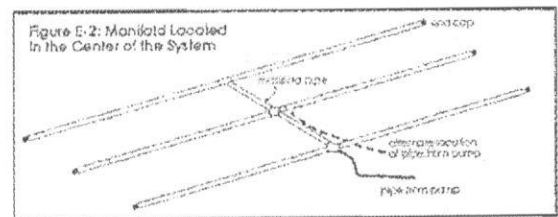

Figure E-2: Manifold Located in the Center of the System
- If perforated lateral system is attached to manifold pipe near the center, like Figure E-2, perforated lateral length (A3c) and number of perforations per lateral (A3e) will be approximately one half of that in Step B1. Using these values, select the MINIMUM diameter for perforated laterals = _____ inches